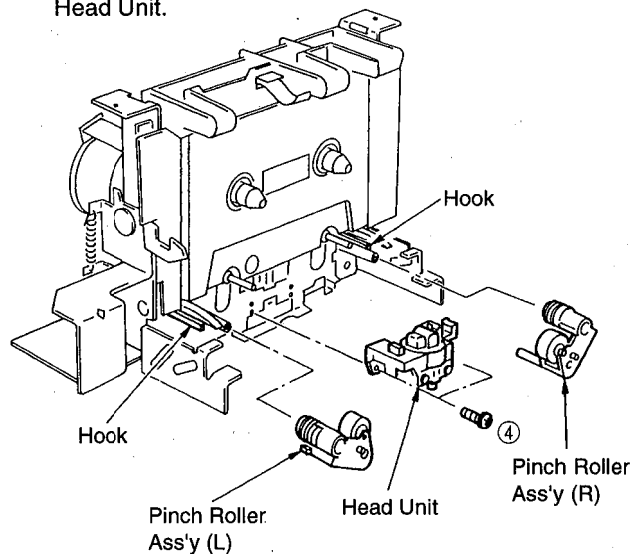

Fig. 4
Unhook at 1 place as shown in Fig. 4 and remove the pinch Roller.
Remove 2 screws (④) in Fig. 4 and then remove the Head Unit.
- a. Remove 2 screws (⑤) in Fig. 4.